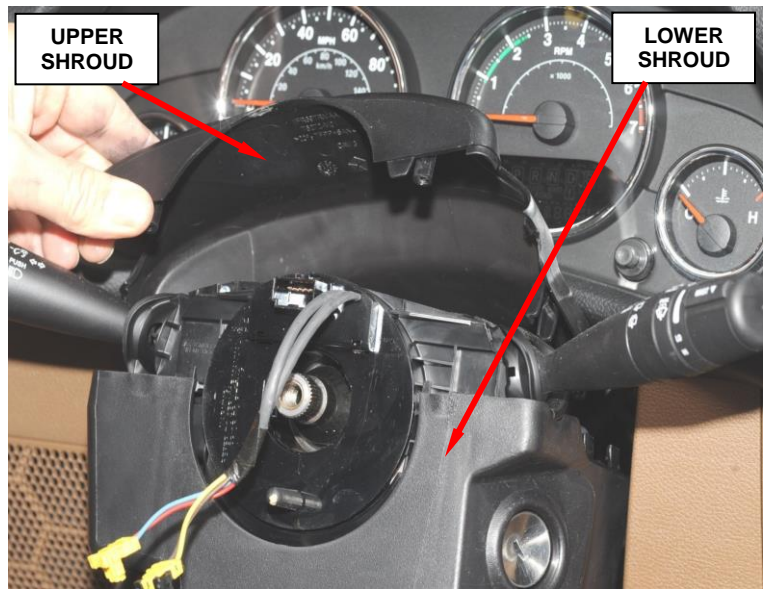

Figure 3 – Upper and Lower Steering Column Shrouds
- 9. Remove and discard the upper and lower steering column shrouds from the steering column (Figure 3).
22. Install the upper and lower steering column shrouds onto the steering column (Figure 3).